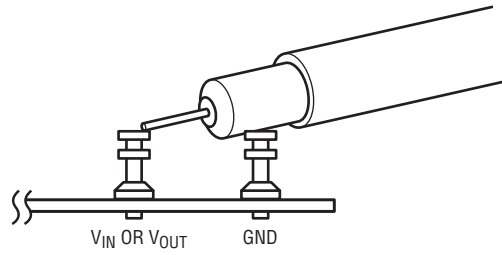

Figure 2: Proper Scope Probe Technique
**NOTE:** When measuring the input or output voltage ripple, care must be taken to avoid a long ground lead on the oscilloscope probe. Measure the input or output voltage ripple by touching the probe tip directly across the  $V_{IN}$  or  $V_{OUT}$  terminals. See Figure 2 for proper scope probe technique.